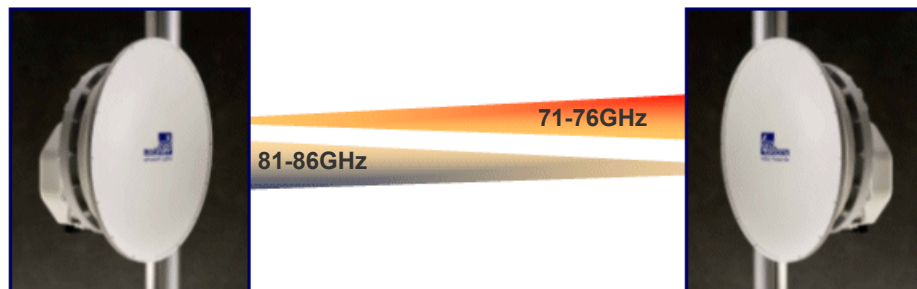

Figure 2-3 Radio links transmitting at 71-76 and 81-86 GHz.
- The system operates Dual Band FDD: one end of the link transmits within the 71 GHz band and receives within the 81 GHz band. The other end of the link does the inverse: transmits within the 81 GHz band and receives within the 71 GHz band, Figure 2-3.